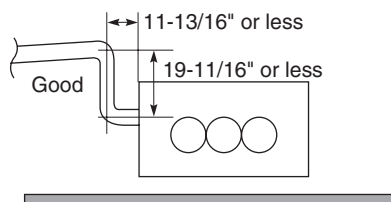

Fig. 1-77
- If it is necessary to increase the height of the drain pipe, the section directly after the connection port can be raised a maximum of 19-11/16". Do not raise it any higher than 19-11/16", as this could result in water leaks. (Fig. 1-77)